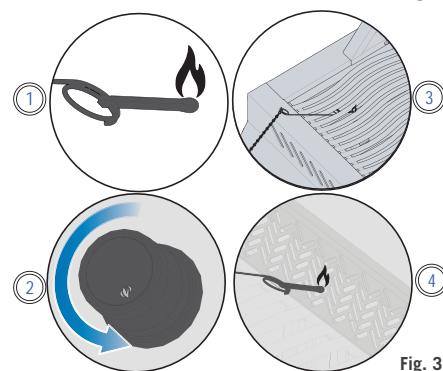

Fig. 3
3. While turning the corresponding burner knob to high. (Fig. 3)